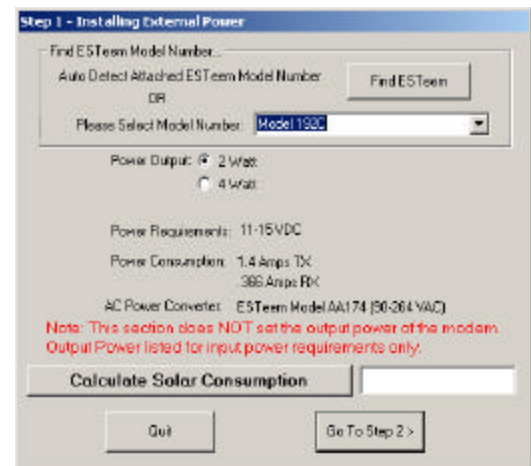

Figure 5: Step 1 - Installing External Power
2. Step 1 – Installing External Power window will be displayed (Figure 5). Select either Find ESTeem or the model number of ESTeem you are programming. The power requirements for that product will be displayed. The ESTeem model AA174 power supply can be used with all ESTeem products. If you are using the ESTeem in a solar power application, press Calculate Solar Consumption button for the Amp/Hours required. Press Go to Step 2 to continue.